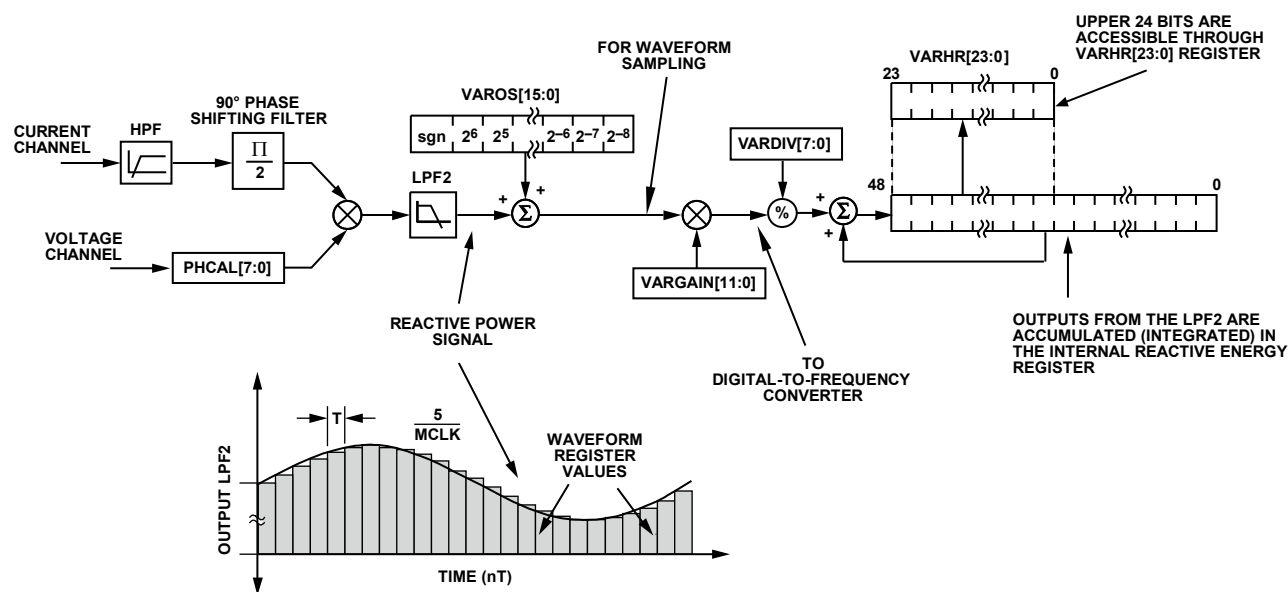

Figure 58. Reactive Energy Calculation
The instantaneous reactive power signal  $q(t)$  is generated by multiplying the voltage and current channels. In this case, the phase of the current channel is shifted by  $90^\circ$ . The dc component of the instantaneous reactive power signal is then extracted by a low-pass filter to obtain the reactive power information (see Figure 58).
Figure 58 shows the signal processing chain for the ADE7518 reactive power calculation. As explained in the Reactive Power Calculation section, the reactive power is calculated by applying a low-pass filter to the instantaneous reactive power signal. Note that, when reading the waveform samples from the output of LPF2, the gain of the reactive energy can be adjusted by using the multiplier and by writing a twos complement, 12-bit word to the VAR gain register (VARGAIN[11:0]). Equation 23 shows how the gain adjustment is related to the contents of the watt gain register.
The ADE7518 also incorporates a reactive power offset register (VAROS[15:0]). This is a signed, twos complement, 16-bit register that can be used to remove offsets in the reactive power calculation (see Figure 58). An offset may exist in the reactive power calculation due to crosstalk between channels on the PCB or in the IC itself. The offset calibration allows the contents of the reactive power register to be maintained at 0 when no power is being consumed.
The discrete time sample period (T) for the accumulation register in the ADE7518 is  $1.22 \mu\text{s}$  (5/MCLK). As well as calculating the energy, this integration removes any sinusoidal components that may be in the active power signal. Figure 58 shows this discrete time integration or accumulation. The reactive power signal in the waveform register is continuously added to the internal reactive energy register.
As shown in Figure 58, the reactive power signal is accumulated in an internal 49-bit signed register. The reactive power signal can be read from the waveform register by setting the WAVMODE register (0x0D) and setting the WFSM bit in the Interrupt Enable 3 SFR (MIRQENH, 0xDB). Like the current and voltage channel waveform sampling modes, the waveform data is available at a sample rate of 25.6 kSPS, 12.8 kSPS, 6.4 kSPS, or 3.2 kSPS.